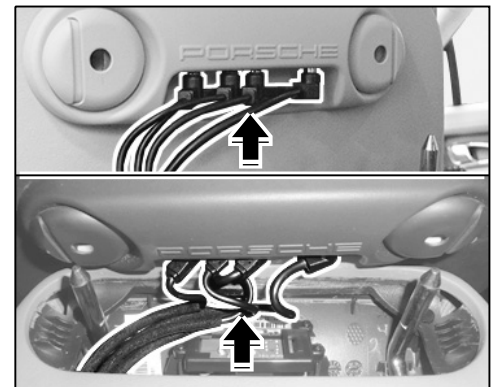

Figure 3
- 3.2 Establish plug connection (4x) with rear of driver seat/passenger seat ⇒ *Figure 3-arrow-*.